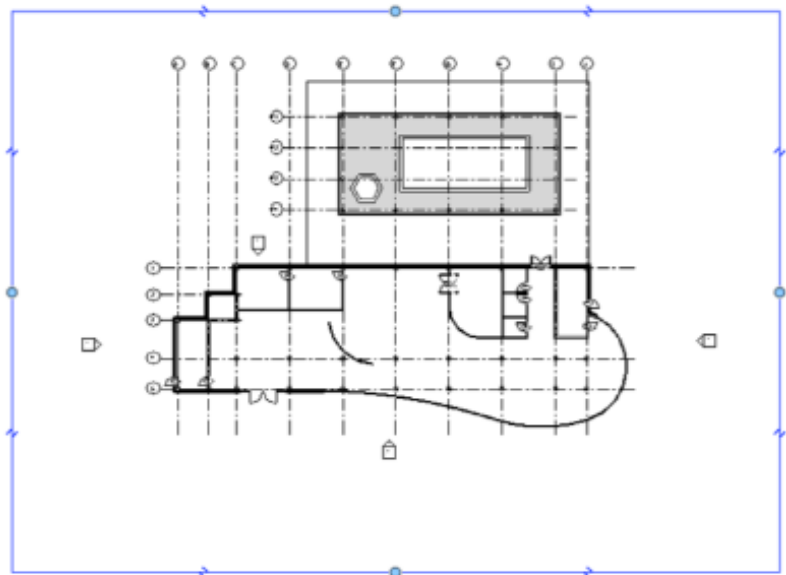

Figure 7-24
7. Select the crop region and drag the control on the top until the pool house displays, as shown in Figure 7-24.